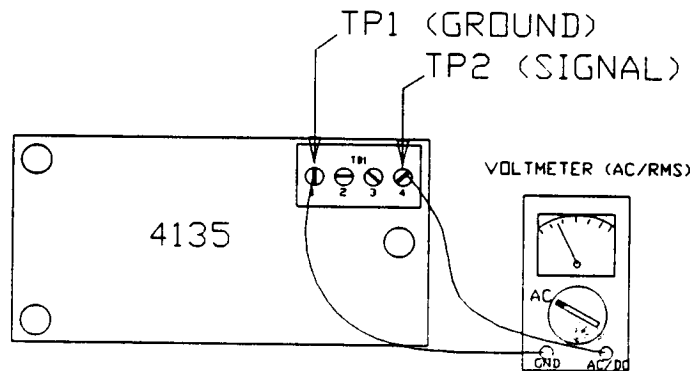

FIGURE 10A: VOLTMETER/RECEIVER CONNECTIONS
1. Connect a voltmeter (set to AC) to the receiver as shown in figure 10A.